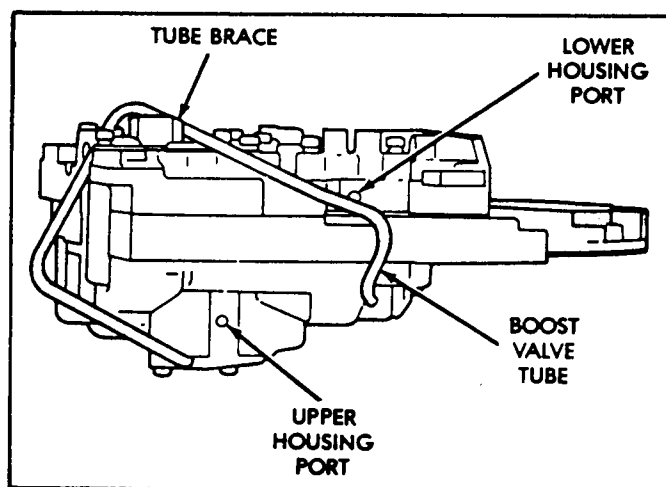

Figure 102
18. Position boost valve tube behind tube brace, as shown in Figure 102.
19. Start the tube in lower housing port first, and then swing tube downward and work opposite end of the tube into the upper housing port (See Figure 102).
21. Note that tube brace may be bent slightly to ease the installation and then resecured (See Figure 102).